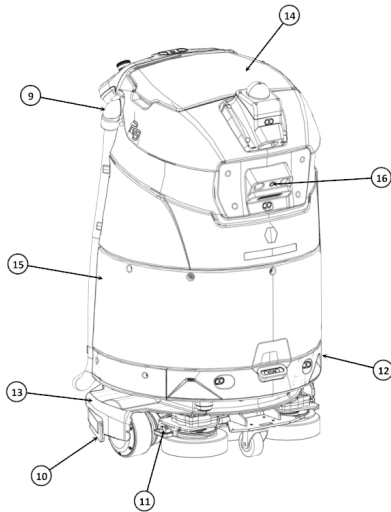

Figure 2
9. Vacuum hose (Figure 2)
10. Squeegee rubber (Figure 2)
11. Brush cartridge latch (Figure 2)
12. Front sensor bar (Figure 2)
13. Squeegee (Figure 2)
14. Recovery tank hatch (Figure 2)
15. Front cover (Figure 2)
16. Front RGB camera (Figure 2)